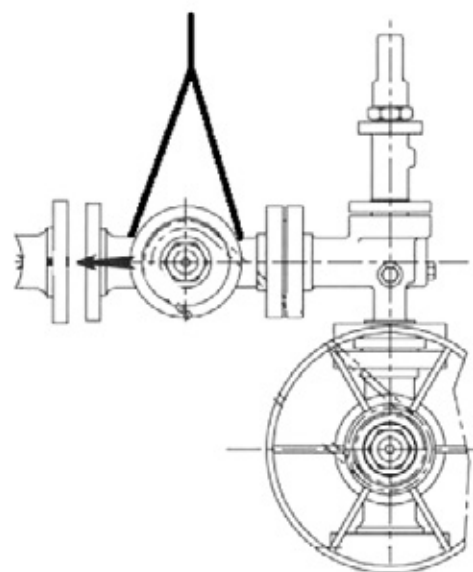

Fig. 4
9. Install the outlet changeover valve; take care of the unbalance and support the weight of the valve until it is securely fastened on both sides, safety relief valve outlets and exhaust piping. (See Fig. 4)
11. Adjust (if required) and assemble the chain (2) onto the appropriate cog wheels.